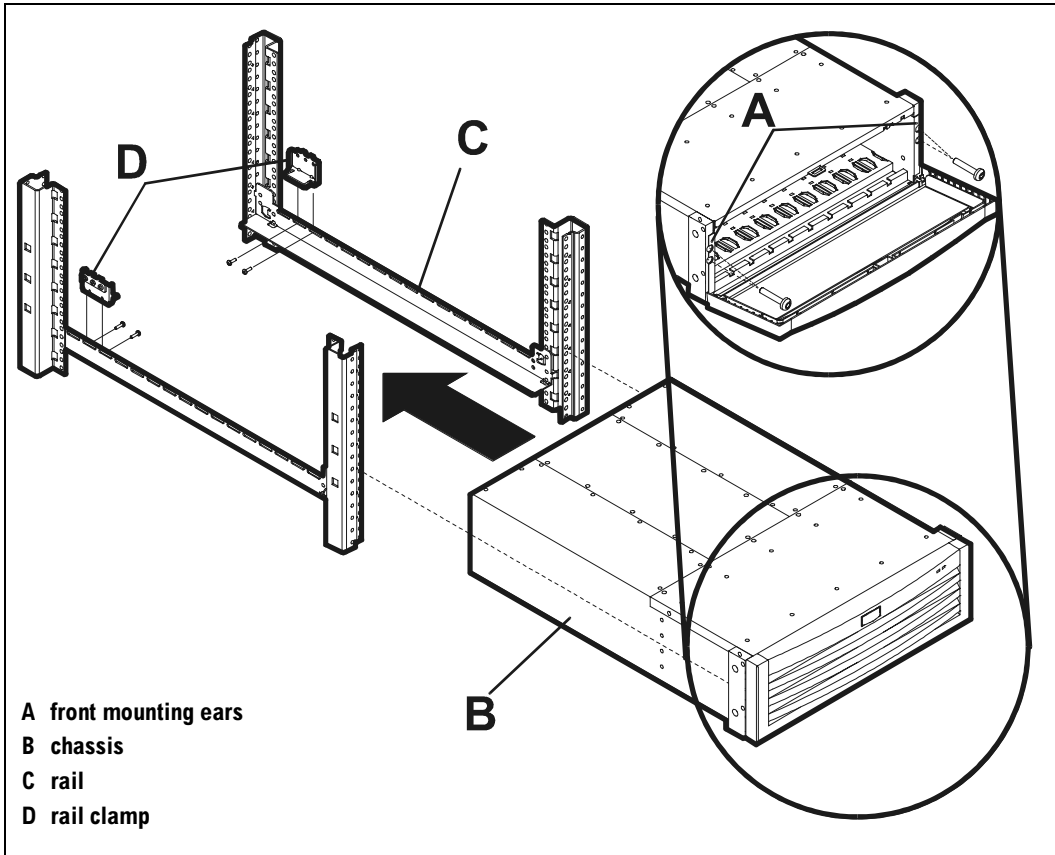

Figure 27 Mounting the Disk System (Rack System/E Shown)
2. With another person or using a lift device, carry the disk system to the front of the rack and slide the back end onto the rails (Figure 27). Push the disk system into the rack as far as it will go.
4. Ensure that one hole in each mounting ear (A in Figure 27) aligns with the sheet metal nuts previously installed on the rack front columns.
- b. If you are installing the disk system in an HP Rack System/E, set the clamp (D in Figure 27) inside the rail so that the holes in the clamp meet the slots in the rail.